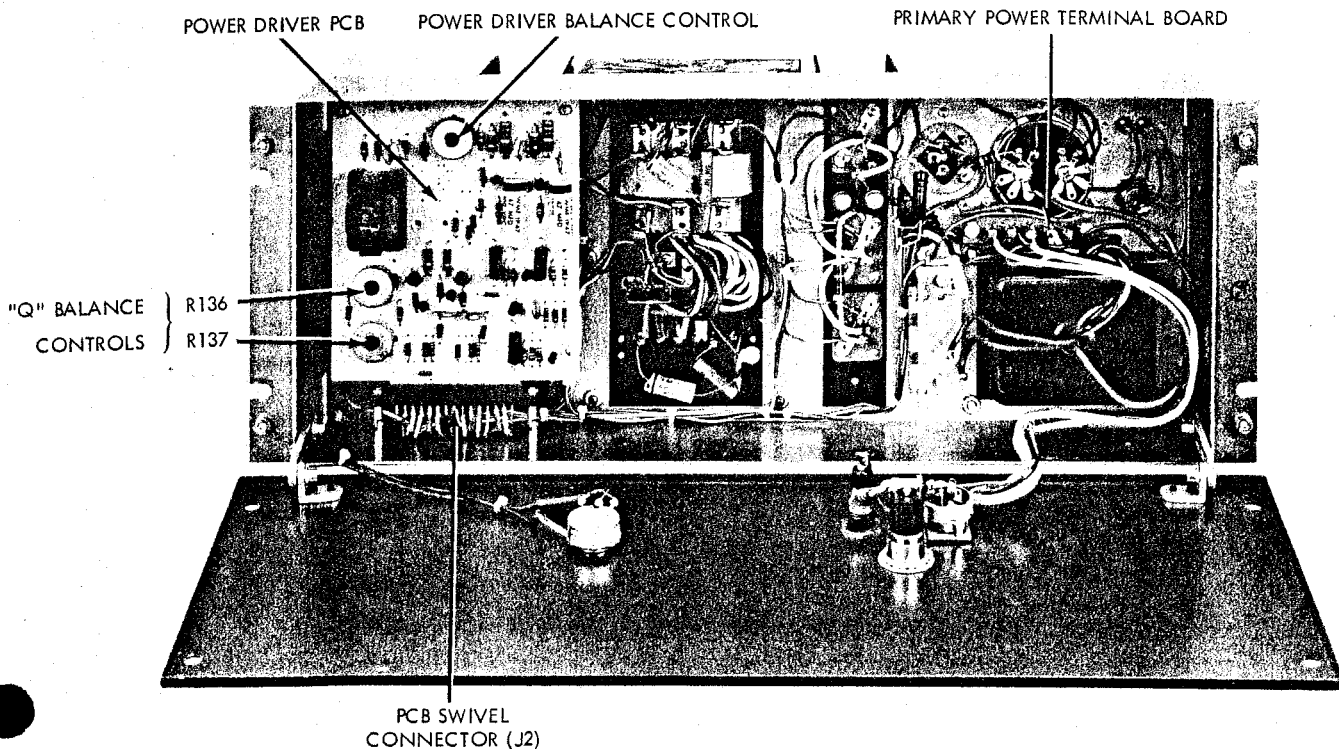

Figure 5. Front View With Hinged Panel Open
| Figure 5. Front View With Hinged Panel Open | 4 |
- Step 1. Remove four screws securing front panel. Open and lower panel as shown in Figure 5.
- Step 2. Locate terminal board TB3 above power transformer T1 (see Figure 5).
- Step 6. Adjust R116 on Power Driver PCB (see Figures 5 and 12) until minimum distortion is observed on distortion measuring instrument.
Output "Q" Balance Controls R136 and R137 on Power Driver PCB (see Figure 5) balance the bias current of power transistors Q1, Q2, Q3 and Q4. Inadequate adjustment of these controls may result in distortion and excessive current drain from one or more power transistors. If adjustment is indicated (such as replacement of one or more power transistors), use the following recommended procedure:
- Step 3. Turn Output "Q" Balance Controls R136 and R137 fully clockwise (see Figure 5).
Step 1. Remove four screws securing front panel. Open and lower panel for access to PCB (see Figure 5).